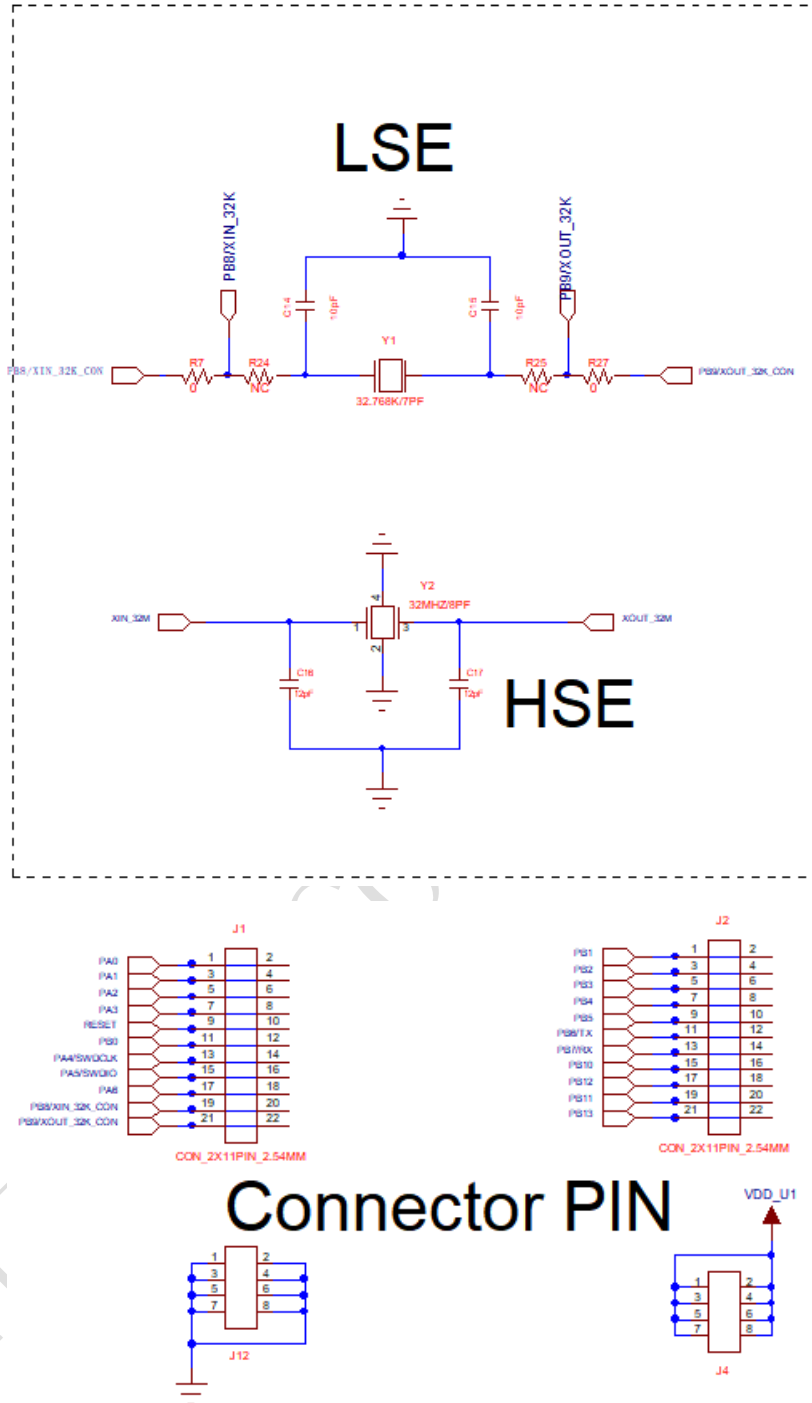

Fig. 1-5 Connection Diagram of Bluetooth Chip
- Figure 1-5 presents the schematic diagram of Bluetooth chip connection. All IOs are connected to pins J1 and J2 to facilitate debugging.